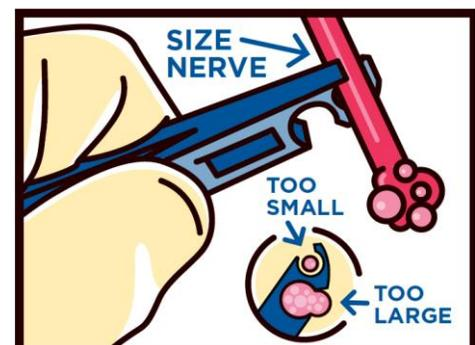

Figure 3
- If the nerve overflows within the maximum sizing guide cutout, the nerve is too large for the forceps selected (Figure 3, Too Large).
- If there is a clearance within the minimum sizing guide cutout, the nerve is too small for the forceps selected (Figure 3, Too Small).